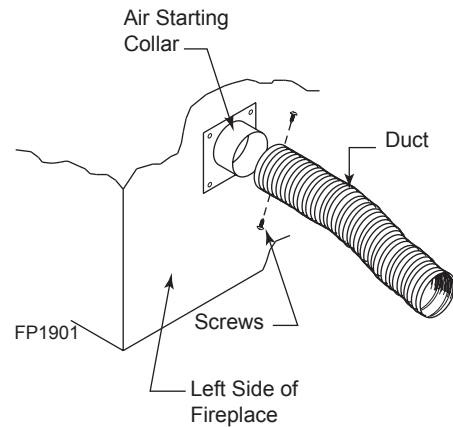

Figure 38 - Attach Outside Duct to Starting Collar
6. Select and cut a piece of duct long enough to attach to the fireplace and stick out at least 3" beyond the face of the wall to which the AK-4 inlet air vent will be attached. *Figure 38*